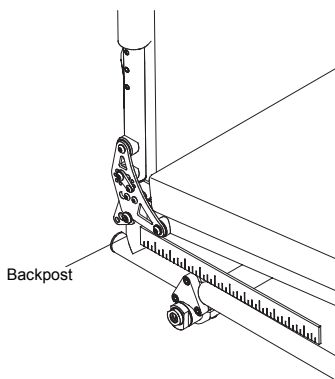

Figure 68
3. Simultaneously slide both camber tube clamping assemblies forward or rearward along the frame until they are positioned in the desired location. Use a ruler to ensure both camber tube clamping assemblies are the same distance from the back post (measured from the back post to the top of the clamping assembly). See Figure 68.
3. Simultaneously slide both camber tube clamping assemblies forward or rearward along the frame until they are positioned in the desired location. Use a ruler to ensure that both camber tube clamping assemblies are the same distance from the vertical frame tube at the rear of the frame. See Figure 68.